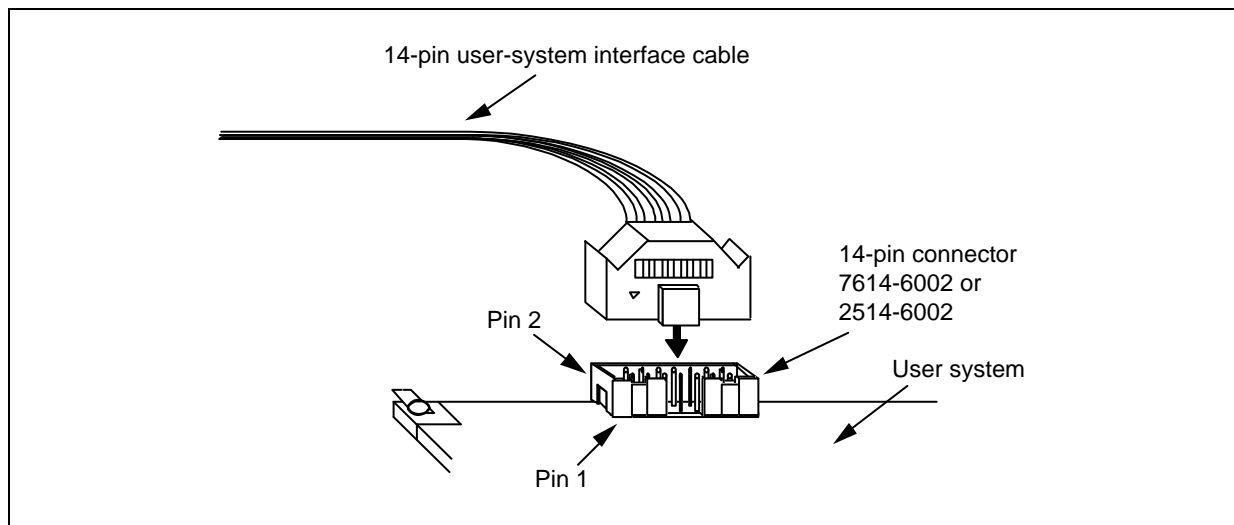

Figure 2.3 Connecting the User-System Interface Cable to the User System when the 14-Pin Connector is in Use with the E1
- (3) For the pin assignments of the connector, refer to the separate MCU-specific manual for the emulator.
(4) Connect one end of the user-system interface cable to the emulator and the other end to the connector on the user system as shown in Figures 2.3, 2.4, and 2.5.